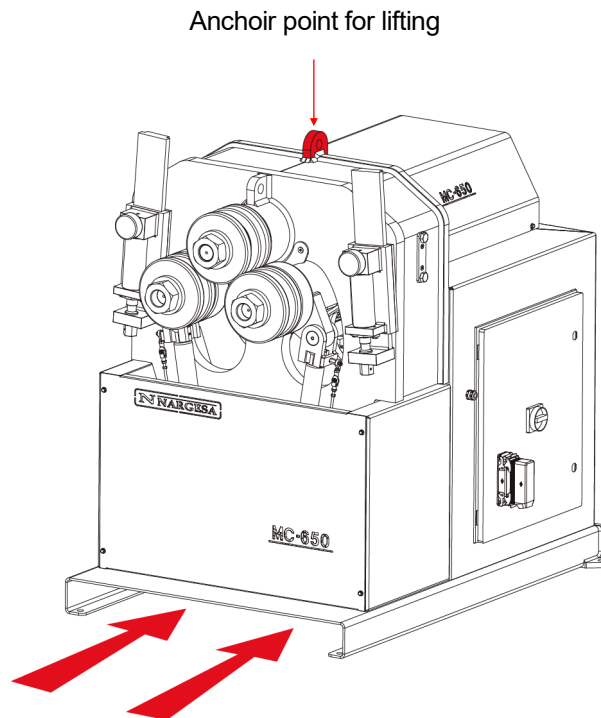

Figure 4. Transportation of the machine
- From the top of the machine, from the anchor point designed for this purpose defined in figure 4, using a crane or forklift.